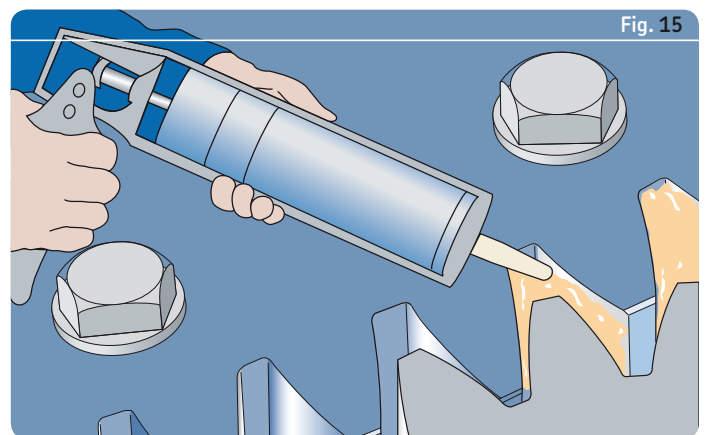

Fig. 15
- 18** Lubricate the gear. (→ **fig. 15**)